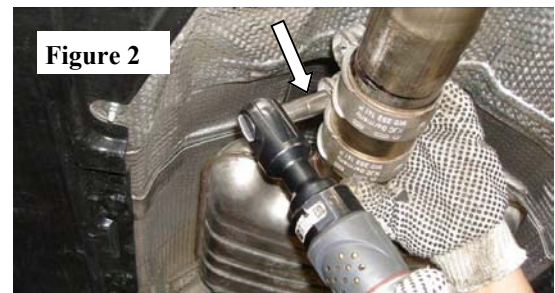

Figure 2
3. Loosen factory clamp bolts and slide clamp rearward. (See Fig.2) **DO NOT DISCARD** - this factory clamp will be used to install your new exhaust.